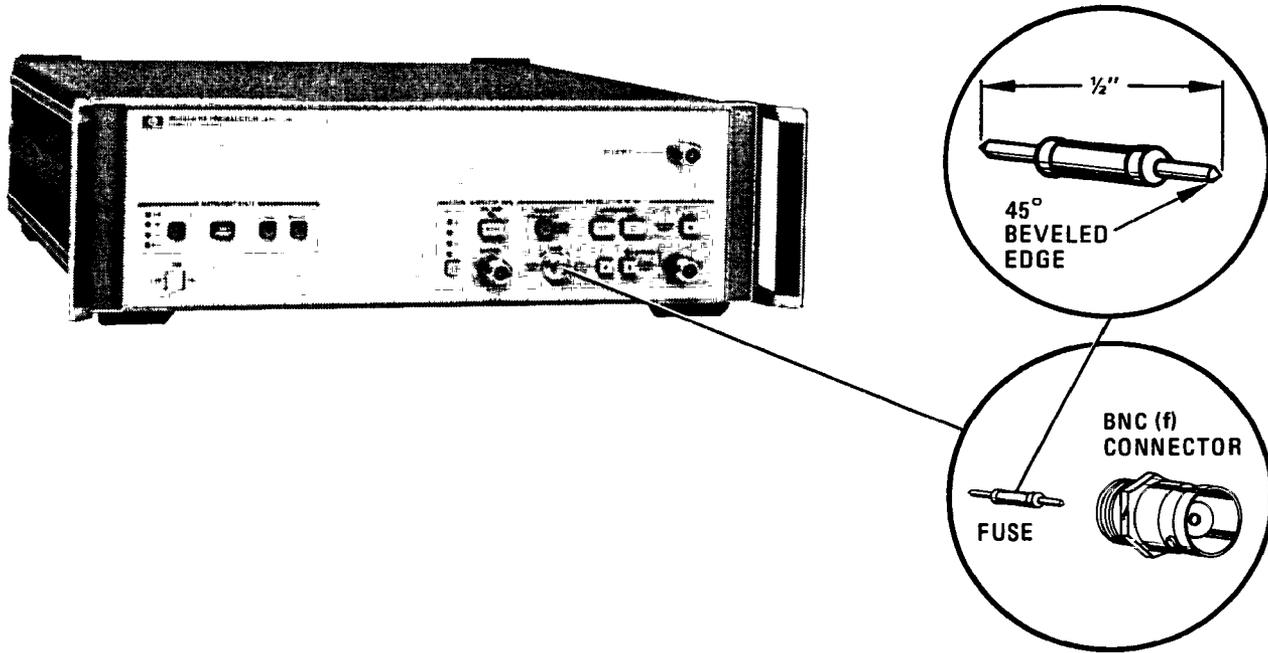

Figure 3. INPUT 1 Fuse Replacement
1. Remove the INPUT 1 connector using a 7/16-inch open-end wrench. See Figure 3.